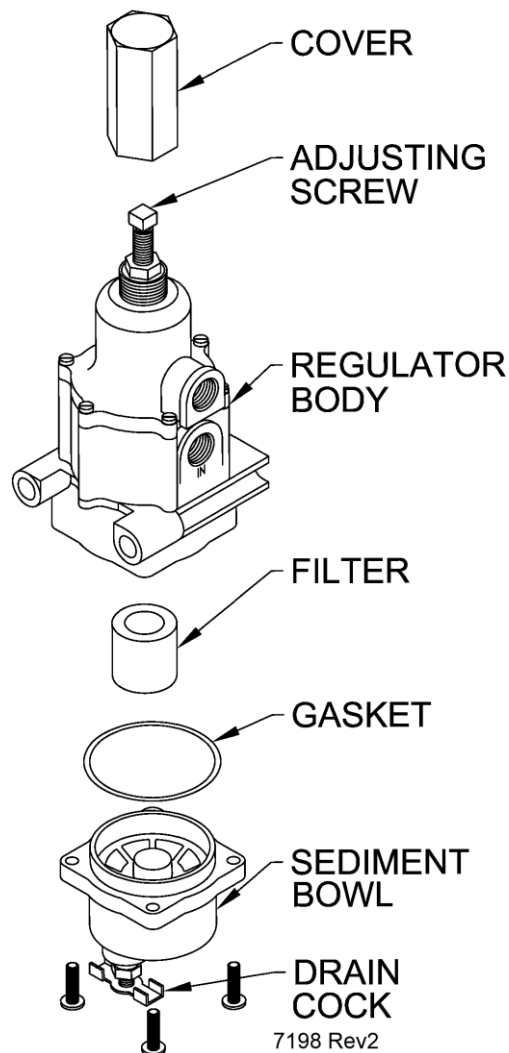

Figure 28 – Pressure Regulator
9. Remove the filter and gasket. See Figure 28 on the next page.
1. Install the filter and gasket onto the sediment bowl. See Figure 28.